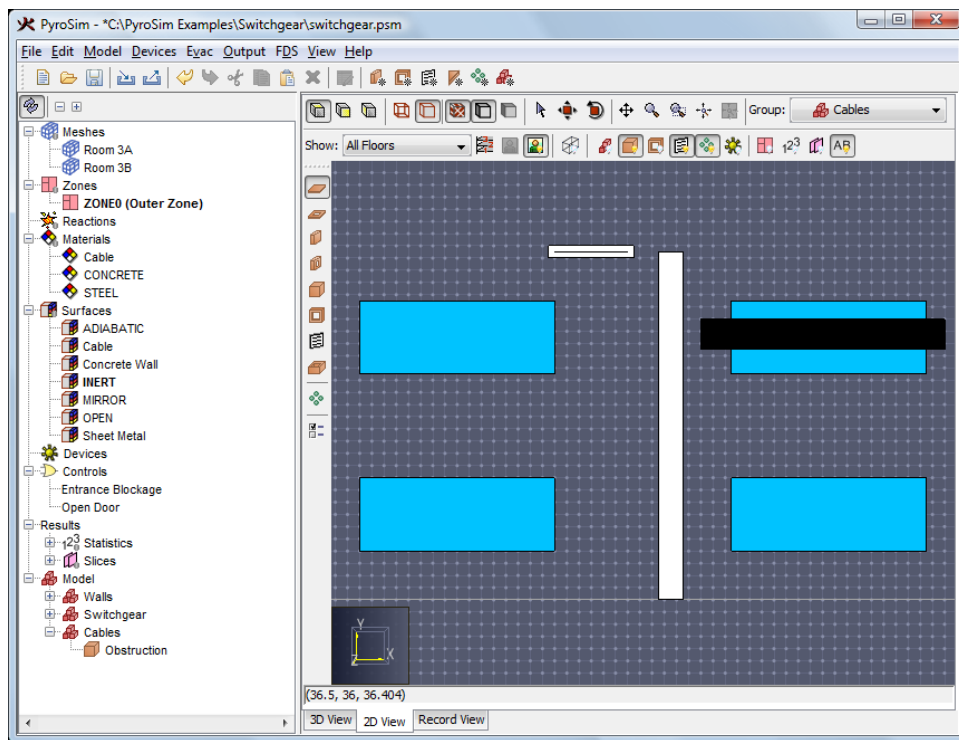

Figure 7.15. The sketch of Cable A
- Press and drag the mouse, approximating the dimensions of cable A shown in Figure 7.1. After sketching, the cable will be as shown in Figure 7.15.